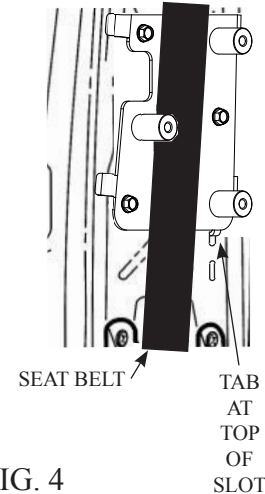

FIG. 4
B. Replace the trim panel, insuring that the standoff's protrude through the panel. (See Fig. 4)